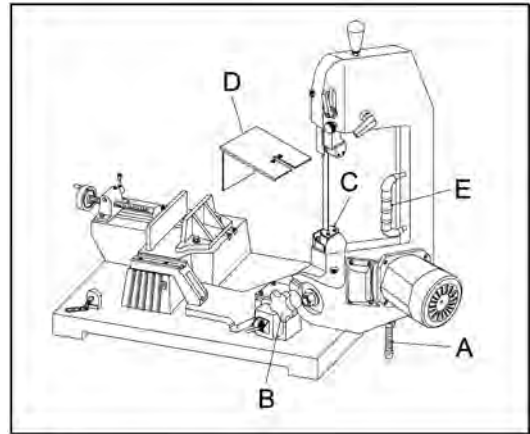

Fig. 7
1. Fasten the supporting bar (A) in Fig. 7 into the slot at the saw head.
2. Raise saw head to vertical position by lifting up the knob (B) a little to release the lock-pin and slide it into the slot which is set for 90 degree.
3. Remove the small plate (C).
4. Install an attached fold plate to (C) position, and tighten it with two screws at (C) location, clamping another side in the vise.
5. Before cutting a bigger work, take away the carrying handle (E). After service, replace the handle.